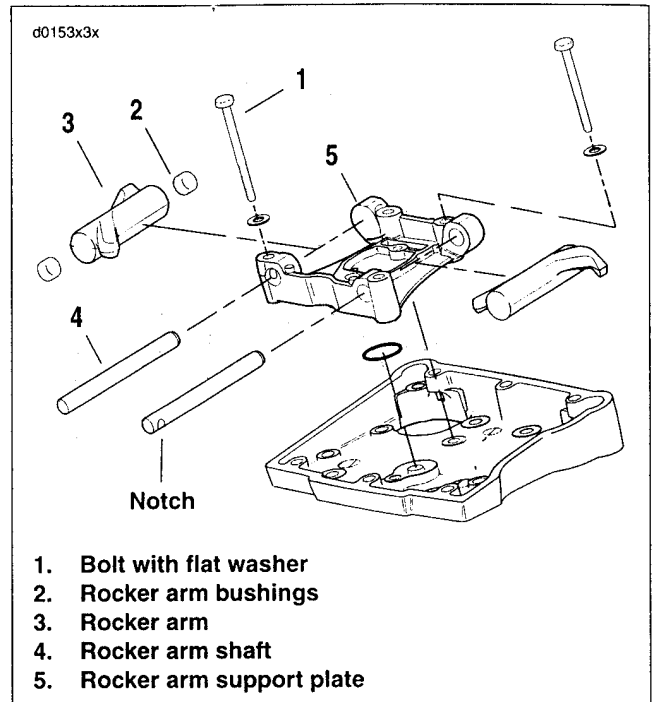

Figure 3-79. Rocker Arm Assembly
1. See Figure 3-79. Remove four bolts with flat washers (1) from the rocker arm support plate (5). The bolts on the push rod side (right) are notched to lock the rocker arm shafts in position.
2. Using a hammer and brass drift, tap left side of rocker arm shafts (4) so that the notched ends exit the rocker arm support plate (5) first. Mark the shafts so that they are installed in their original locations at time of assembly.
2. See Figure 3-79. Check rocker arms (3) for uneven wear or pitting where contact is made with the valve stem tips. Check for concave wear where rocker arms contact the push rod ends. Replace rocker arm if excessive wear is found at either location.
3. Verify that oil holes in rocker arms and rocker arm support plate (5) are clean and open.
4. Inspect rocker arm shafts (4) for scratches, burrs, scoring or excessive wear. Replace as necessary.